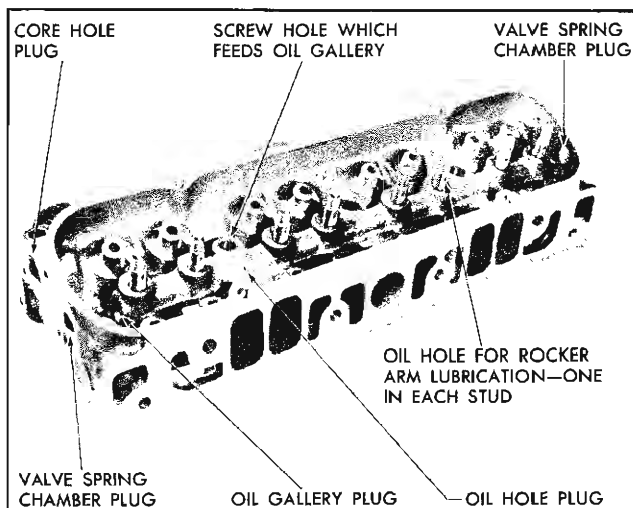

Fig. 6-29 Location of Oil Gallery Plugs
7. Remove plugs (Fig. 6-29) from ends of cylinder head oil gallery and thoroughly clean out metal deposits and foreign matter from oil gallery (head must be right side up so foreign material will not lodge in or around studs).